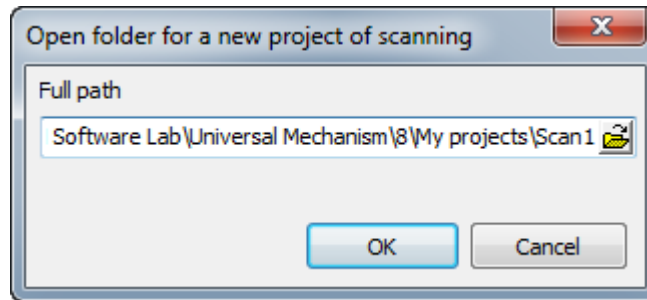

Figure 3.3. Folder for a new scanning project
2. Input the full path to the scanning directory including name of the project, Figure 3.3.